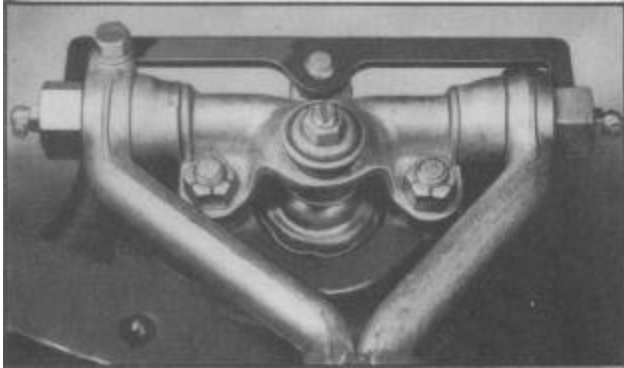

Figure 13-- Locating Pivot Bushing With Tool J 1360
2. Remove upper arm bushing clamp bolt (20). 3. Screw bushing (23) off of the pivot.
NOTE: Use tool J 1360 in reinstalling the bushing. Place tool on the outer stud (26) Figure 13 of pivot and locate the bushing so that pivot is central with the tool.
2. Screw bushing (22) out of upper support arm and off the pivot arm.
NOTE: Use tool J 1360 in reinstalling the bushing. Place the tool on the outer stud of the pivot (26) Figure 13 and locate the bushing so that the pivot is central with the tool.